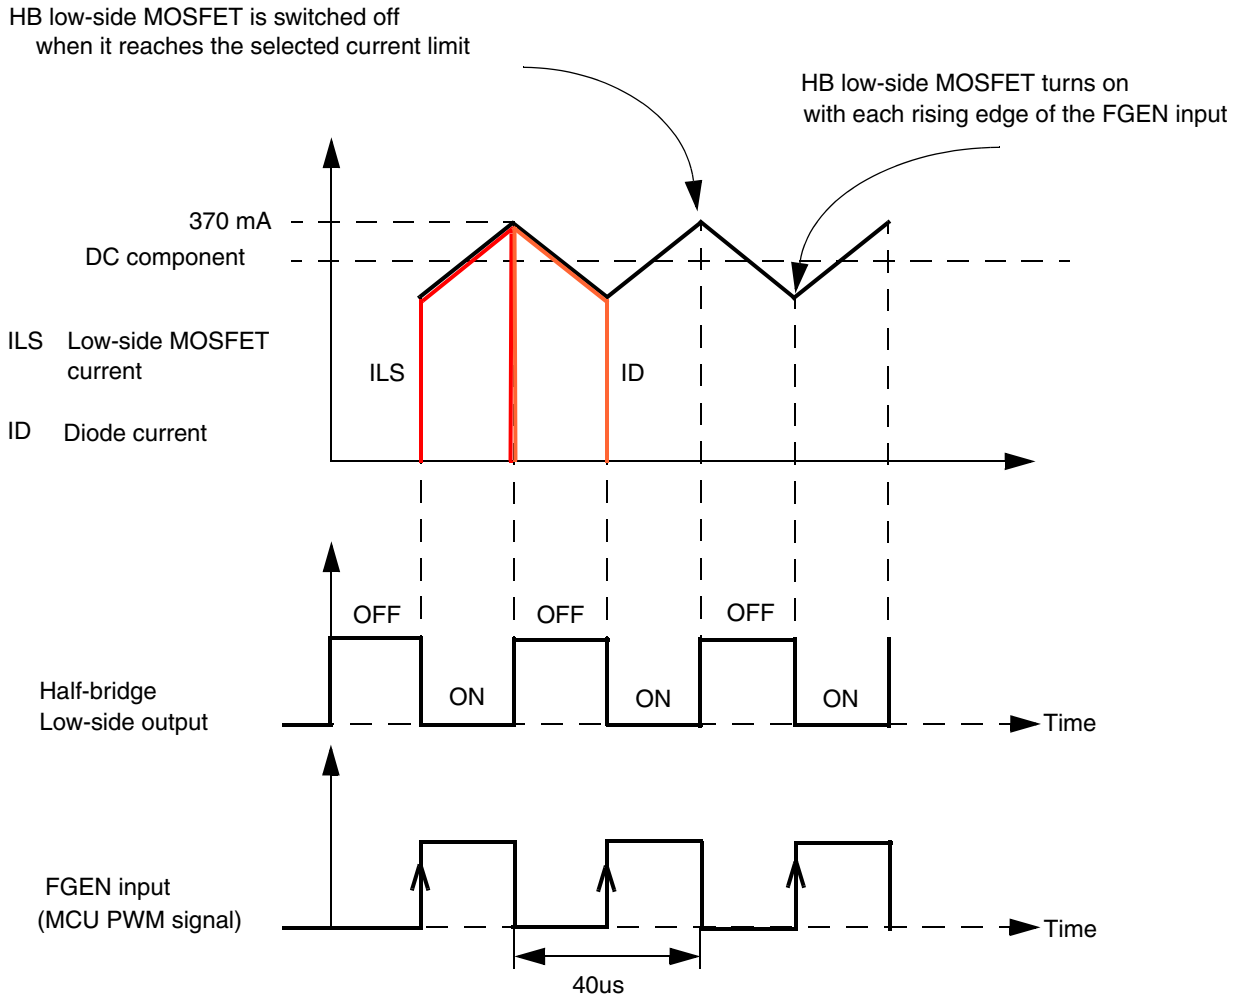

Figure 2-3. Low-Side MOSFET Switching on the MM908E625 to Drive the High-Brightness LEDs
When switching on the low-side MOSFET (Figure 2-3), current flows through the high-brightness LED and inductor (L). When it reaches the current limit previously defined inside the MM908E625, the MOSFET is turned off automatically. At this point, the energy stored in the inductor (L) continues to flow through the LED because of the Schottky diode (D). The idea is to maintain a constant flow of current through the high-brightness LED. Before the current drops to zero, the low-side MOSFET is turned on again to start a new current cycle.
Looking closely at the specifications of the device, there is a feature essential to this application. Each of the four half-bridge outputs has a programmable current limit mode of operation when the low-side MOSFETs are used in PWM mode. This limit is implemented by turning off the MOSFET on a cycle-by-cycle basis after it reaches the preset current limit (Figure 2-3). In this application, the low side MOSFET conduction is activated on the rising edge of a base clock provided by the MCU. The MOSFET is on until the current limit is reached, at which time the limit circuit terminates the current cycle, turning off the MOSFET. Driving only the LED in this mode would not work properly because the current limit would be reached quickly and the MOSFET would turn off. An inductor is used to limit the speed of current change in the circuit (di/dt), effectively creating an efficient 4-channel buck switching current regulator.
Each of the MM908E625's four half-bridge outputs has a programmable current limit mode of operation when the low-side MOSFETs are used in PWM mode. This limit is implemented by turning off the MOSFET on a cycle-by-cycle basis after it reaches the pre-set current limit (Figure 2-3). In this application, the low-side MOSFET conduction is activated on the rising edge of a base clock provided by the MCU. The MOSFET is on until the current limit is reached, at which time the limit circuit terminates the current cycle, turning off the MOSFET. Driving only the LED in this mode does not work properly because the current limit is reached quickly and the MOSFET turns off. An inductor is used to limit the speed of current change in the circuit (di/dt), effectively creating an efficient 4-channel buck switching current regulator.